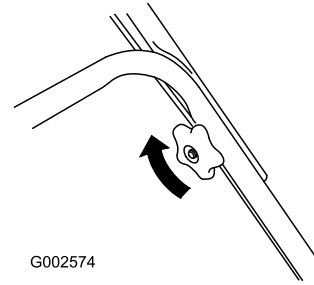

Figure 5
2. Tighten the upper handle knobs (Figure 5).